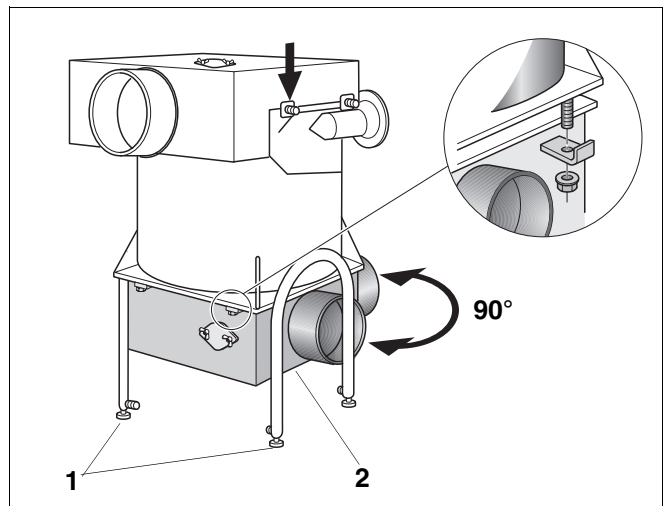
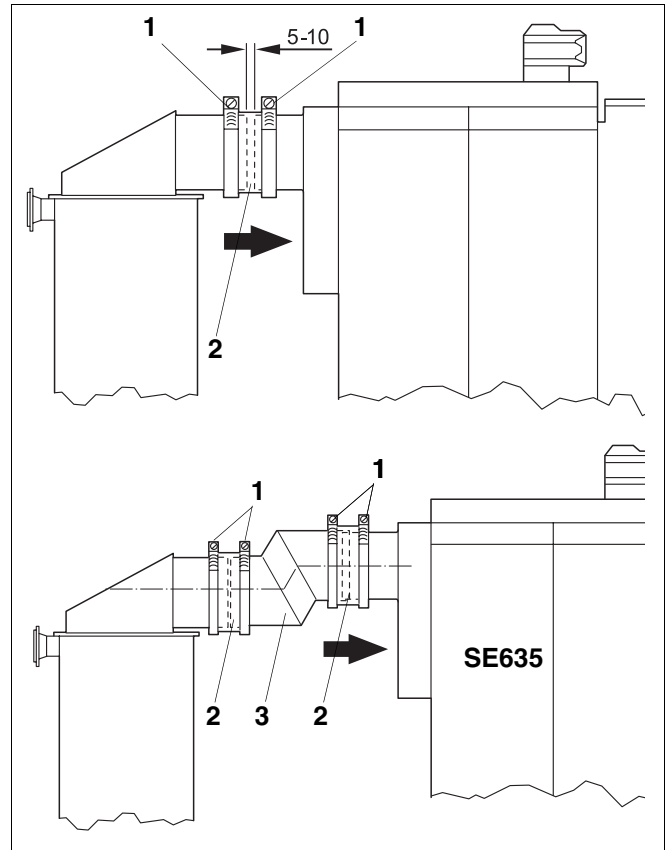
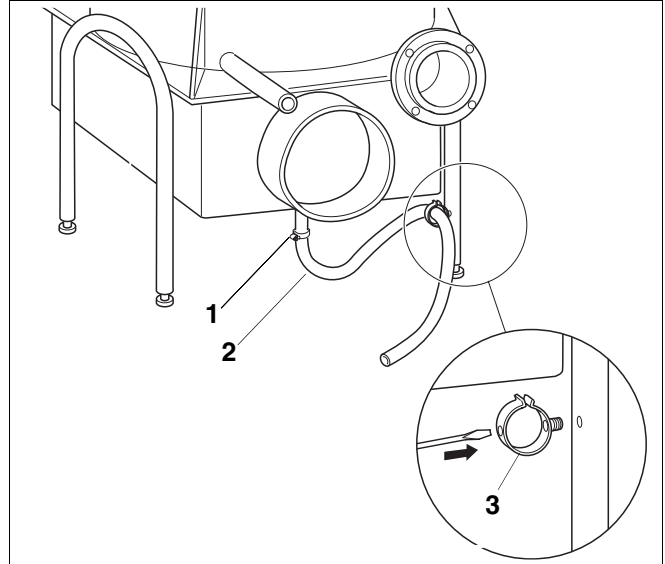

Fig. 4 Rotating and levelling the flue gas header
Fig. 5 Tighten flue pipe sealing collar
Fig. 6 Fitting drain hose
To ensure perfect ventilation, the flue gas heat exchanger must be tilted slightly backwards, using the adjustable feet (Fig. 5 and Fig. 6, page 12).
Ensure that the flue pipe sealing collar (Fig. 5, page 11) with the clips is located above one of the two flue outlets before the boiler and flue gas heat exchanger flue outlets are levelled (Fig. 4, page 10).
The flue gas header (Fig. 4, **Item 2**) can be shifted 90°.
- Loosen four nuts from underneath, swivel the clamping angle outwards (Fig. 4).
- Completely remove flue gas header (Fig. 4, **Item 2**) and put back in place, rotated through 90°.
- Level flue gas header, swivel clamping angle inwards and tighten nuts (Fig. 4).
- Align boiler and flue gas heat exchanger flue outlets, keeping them 5–10 mm apart (Fig. 5).
- On SE635, first place the flue pipe sealing collar (Fig. 5, **Item 2**) then the flue pipe adapter (Fig. 5, **Item 3**) with the greater diameter over the boiler flue outlet and seal it using the flue pipe sealing collar provided.
- Push flue pipe sealing collar (Fig. 5, **Item 2**) over both flue outlets and tighten using two clips (Fig. 5, **Item 1**).
- Insert hose bracket (Fig. 6, **Item 3**) into the hole in the frame.
- Using hose clip (Fig. 6, **Item 1**), fasten drain hose* (Fig. 6, **Item 2**) to the condensate outlet.
- Insert drain hose* into the hose holder, shape like a siphon and clamp tight with nut and bolt (Fig. 6).